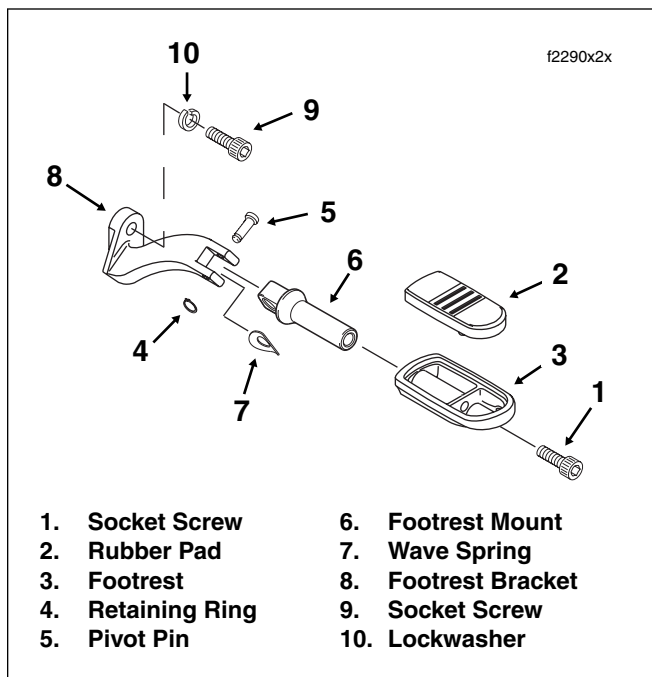

Figure 2-205. Passenger Footrest (FLHRS, FLHX)
1. Remove socket screw from end of footrest. Remove rubber pad from footrest. See Figure 2-205.
2. Align hole in wave spring with bottom hole in footrest bracket. See Figure 2-205. Be sure that the concave side is down and the flat edge is against the inboard side of the footrest bracket.